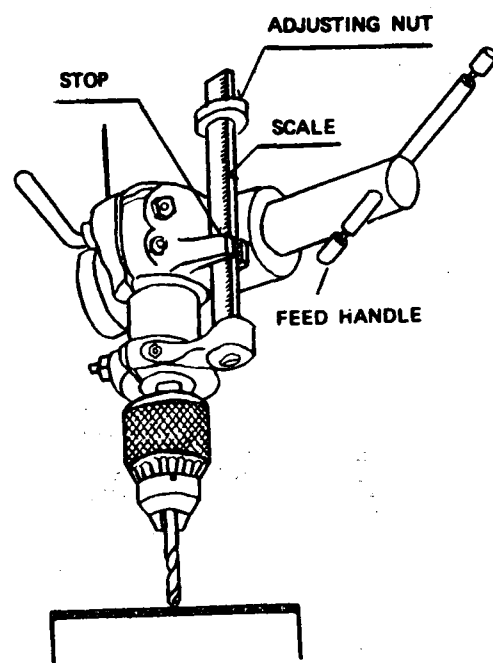

Fig. 6
- a) Using the feed handle (Fig. 6), position the drill over the work-piece.